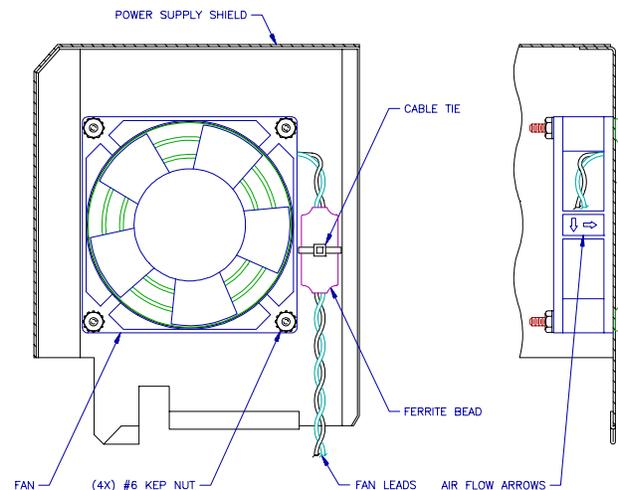

Figure 2
8. Cut the cable tie securing the ferrite bead and fan leads to the power supply shield (Figure 2).